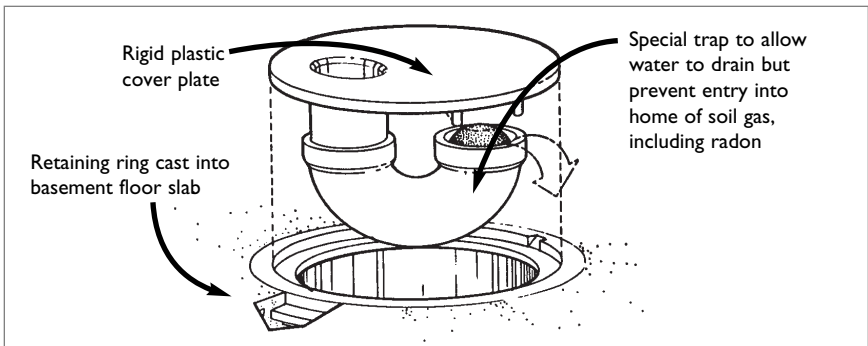

Figure 18: Trap for new floor drains
- Install special traps in floor drains that allow water to drain but prevent radon from entering the basement (see figure 18). These traps have the added benefit of keeping out molds, odours, insects and cold drafts. However, they are not a substitute for a sewer backup valve.